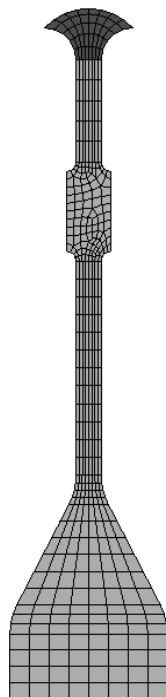

Fig. 6.19. 2D mesh on the bladed disk
9) Starting from the top surface (A8), create a surface finite element mesh. For A6, specify type of mesh **Free**, for the rest type **Mapped**. The result in Fig. 6.19.